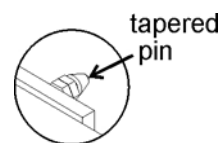

Figure 4-10. Pin
3. Remove the platform from the chamber. At the back of the platform are two tapered pins (Figure 4-10).